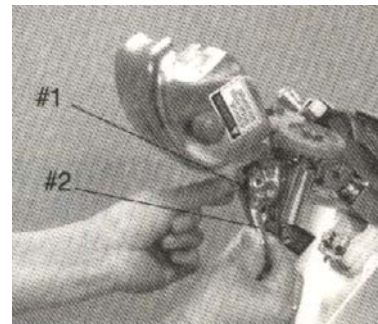

Fig.17-4
2. Return the sharpener to its original position by pulling on knob (#1) keeping it extended. Also, hold onto lever #2 and swing sharpener back in to stored position. (Fig.17-4)